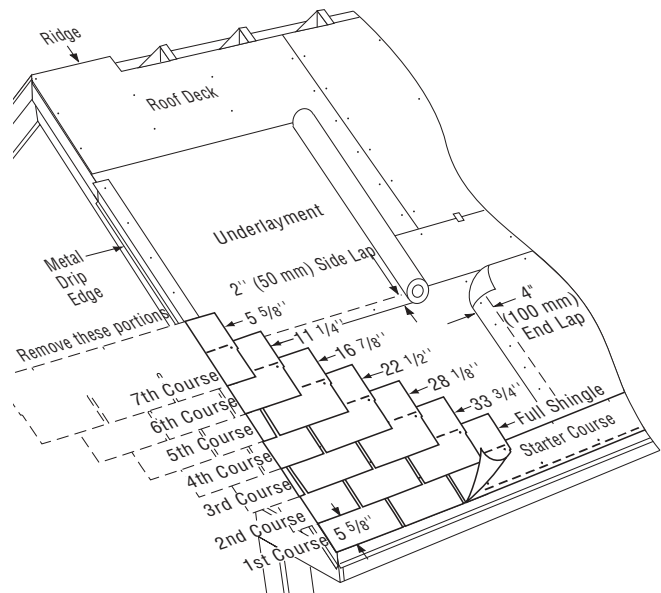

Figure 12-14: Applying the first 7 courses on a standard slope.
1ST COURSE: Apply a full shingle at the lower left corner of the roof. Make tabs lie flush with the edges of the starter course. In this way, sealant on the starter strip will adhere to the first-course tabs and help keep them from lifting in high winds (Figure 12-14).
1. Cut 5⁵/₈" off the left side of a shingle and install this 33³/₄" piece over and above the first-course shingle, in line with the left edge of the starter course (Figure 12-14).
2. Cut 11¹/₄" off the first shingle of the third course, 16⁷/₈" off the first shingle of the fourth course, 22¹/₂" off the first shingle on the fifth course, 28¹/₈" off the first shingle of the sixth course, and 33³/₄" off the first shingle of the seventh course. Apply each with its left edge in line with the previous course (Figure 12-14).